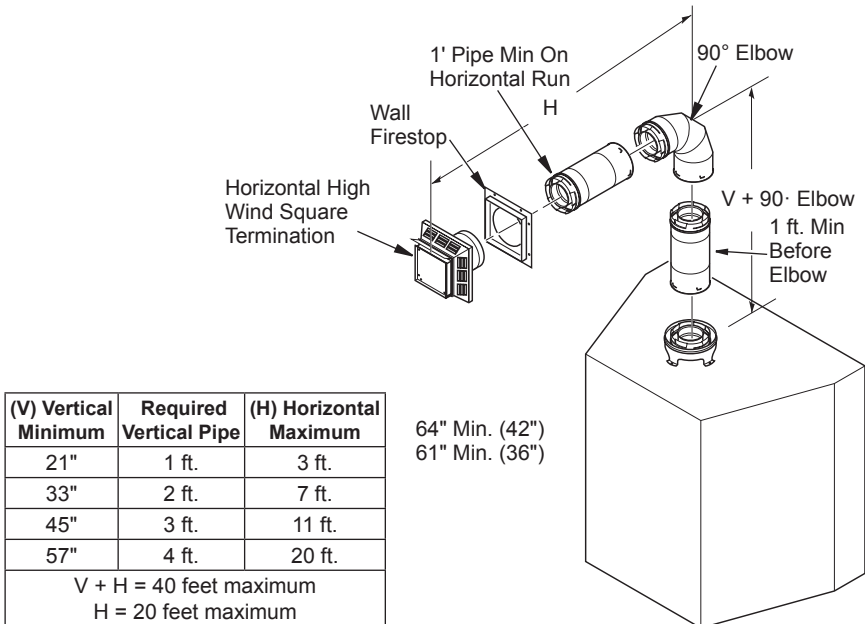

Figure 15 - Horizontal Termination Using One 90° Elbow
1. Set fireplace in its desired location and determine the route your horizontal venting will take. Do not secure fireplace until all venting has been installed. Some installations require sliding fireplace in and out of position to make final venting connections. Figures 15 and 16 on pages 13 and 14, show different configurations for venting with horizontal termination that will help you decide which application best suits your installation. Check to see if wall studs or roof rafters are in the path of your desired venting route. If they are, you may want to adjust location of fireplace.
Figure 15 shows a configuration for venting with horizontal termination with a chart of critical minimum and maximum dimensions which **MUST** be met.
1. Cut a 11 1/2" square hole in ceiling using locating hole as a center point. Opening should be framed to 11 1/2" x 11 1/2" inside dimensions, as shown in Figure 10 on page 11 using framing lumber the same size as ceiling joists. If area above ceiling is an insulated ceiling or an attic, nail firestop from top side. This prevents loose insulation from falling into required clearance space. If area above ceiling is a living space, install firestop below framed hole. Firestop should be installed with no less than three nails per side (see Figure 15).